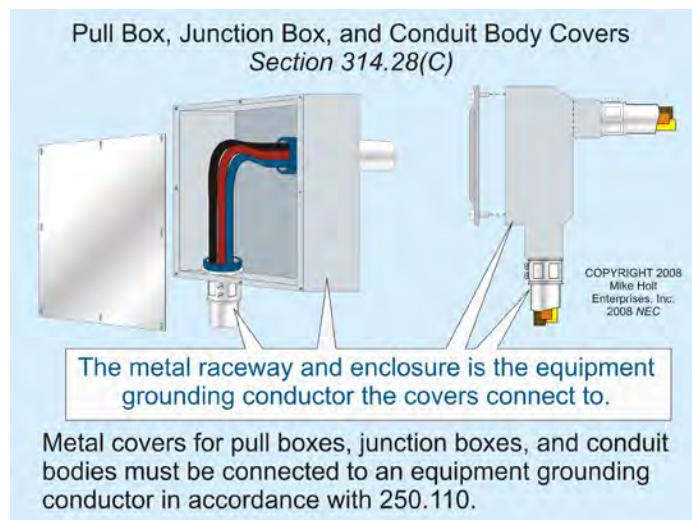

Figure 314-25
(3) Smaller Dimensions. Boxes or conduit bodies smaller than those required in 314.28(A)(1) and 314.28(A)(2) are permitted, if the enclosure is permanently marked with the maximum number and maximum size of conductors.
(C) Covers. Pull boxes, junction boxes, and conduit bodies must have a cover suitable for the conditions. Nonmetallic covers are permitted on any box, but metal covers are only permitted where they can be connected to an equipment grounding conductor of a type recognized in 250.118, in accordance with 250.110 [250.4(A)(3)]. Figure 314-25